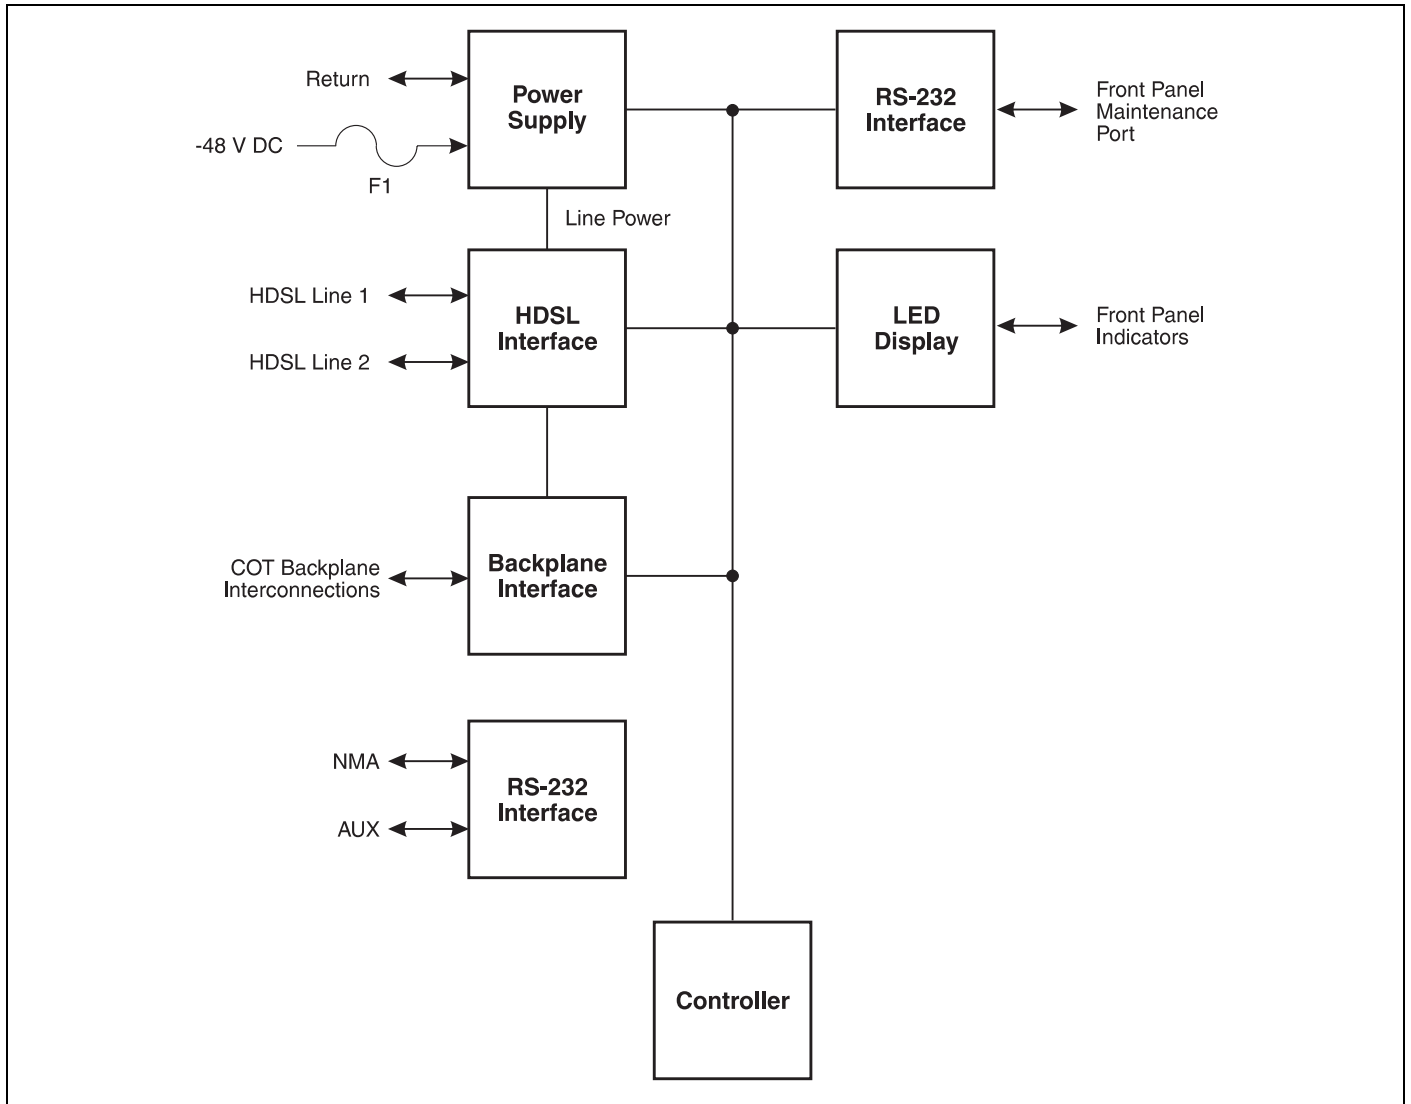

Figure 3. FLL-712 COT Line Unit Block Diagram.
6.02 A block diagram of the FLL-712 is shown in Figure 3. The power supply converts CO battery into voltages necessary to power the PG-Flex electronics including ± 130 Vdc, which is simplexed onto the carrier pairs to power the remote electronics. During power-up, the system checks the HDSL lines for hazardous voltages or other line faults which might effect the system. If a fault condition is detected, the system will not complete the power-up sequence and the LED indicators on the front panel will indicate a line fault problem on the front panel LED indicators.